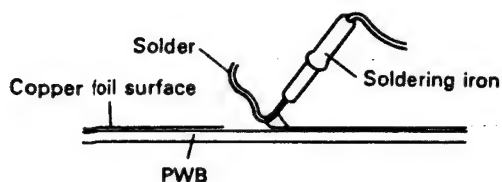

Figure 68.
1. Temporarily solder one terminal of the chip on the copper foil surface. See Fig. 68.